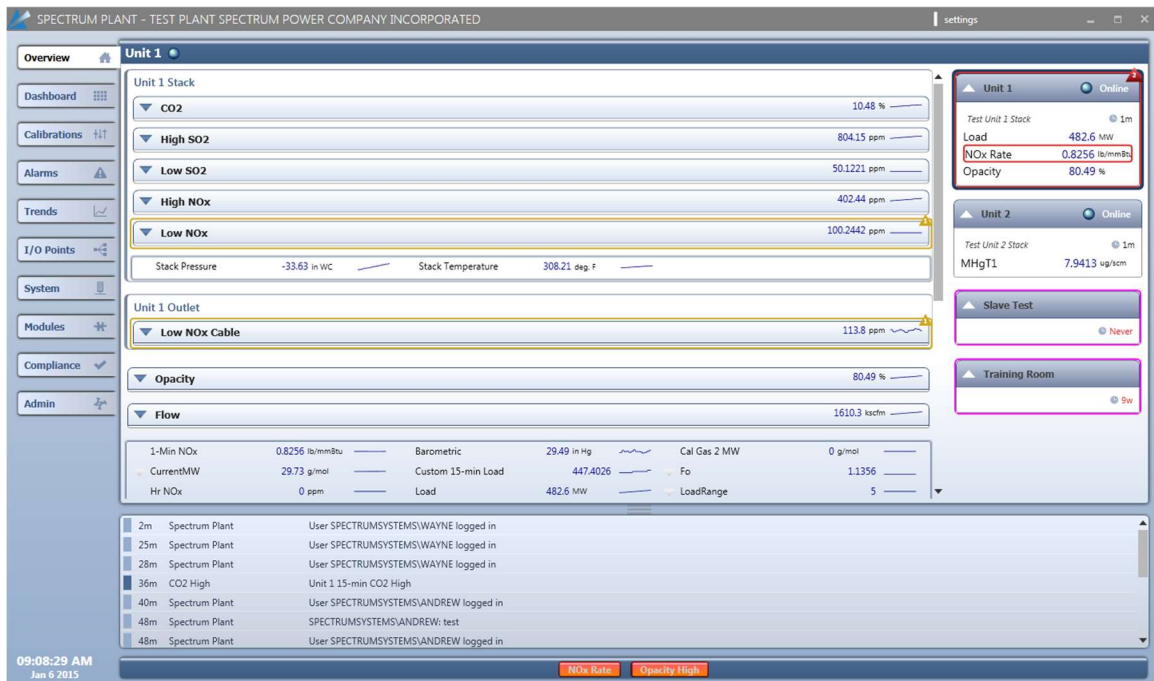

Figure 3-4 SpectraView® Prism Main Window showing Overview Page
3. There are no login actions required by the end-user. If there are no errors, the Main application Window, with the *Overview Tab* selected will appear, as seen in **FIGURE 3-4**.